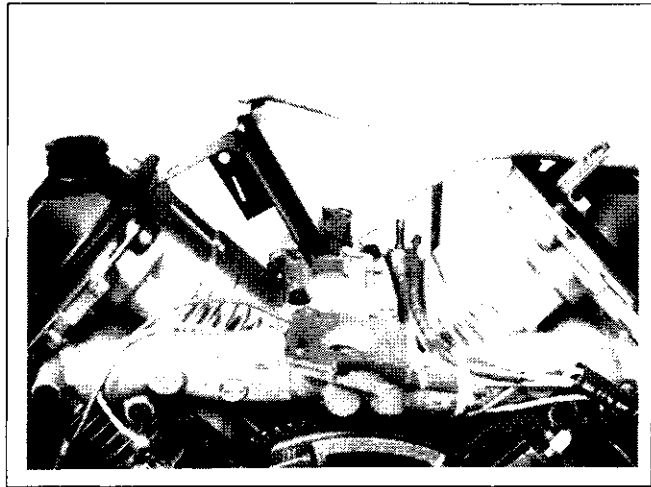
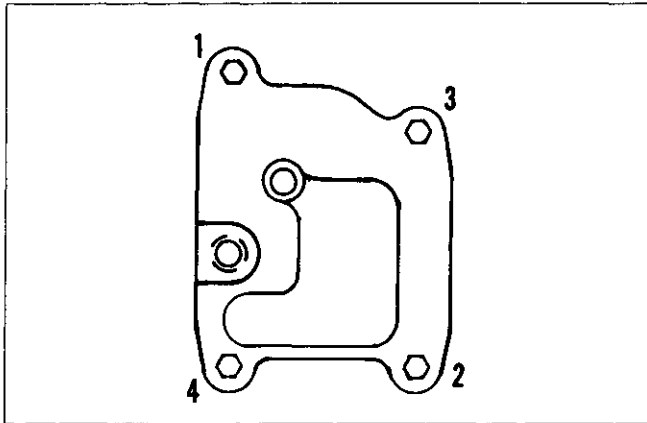

Figure 11-52. Positioning Inner Baffles.
Figure 11-59. Breather Cover Fastener Torque Sequence.
7. Install the inner baffles using remaining two hex. flange screws (see Figure 11-52) and tighten finger tight. **Do not** tighten the four hex. flange screws at this time. They will be torqued following installation of blower housing and outer baffles. Refer to Figure 11-59 for breather cover tightening sequence and final torque specifications.
8. Torque the four breather cover hex. flange screws to **8.6 N·m (65 in. lb.)** in the sequence shown in Figure 11-59. This same torque applies to both RTV sealant and the formed gasket.